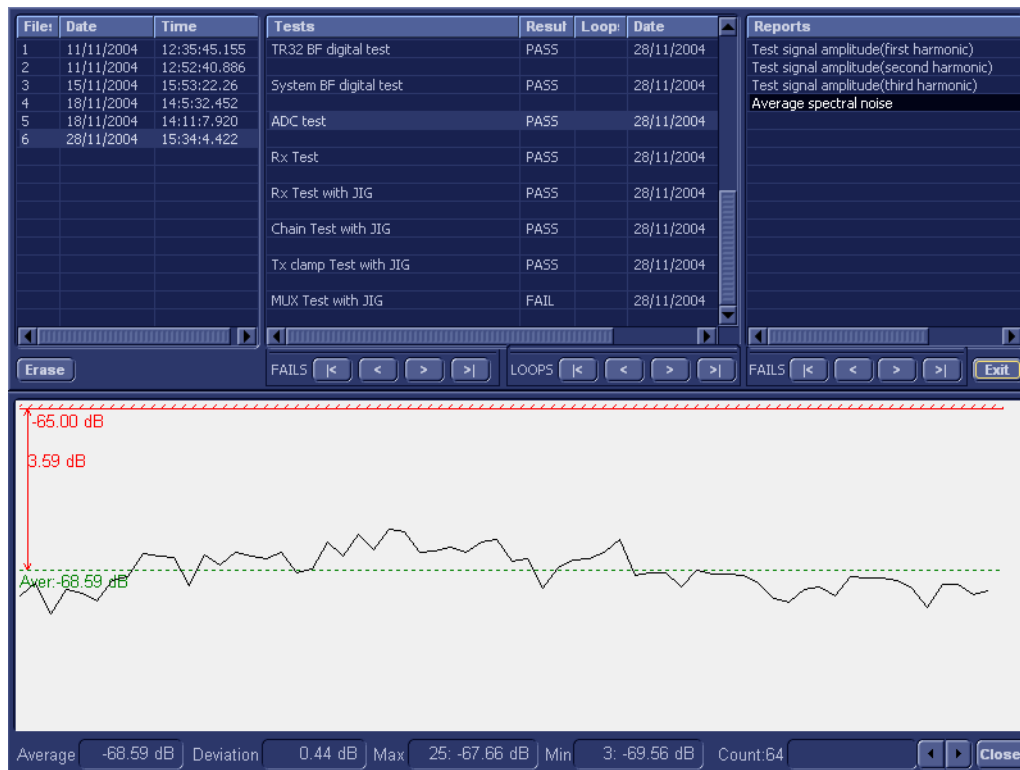

Figure 7-31 View Test Log - Average
- 15.) Select the fourth report (the report is highlighted in the *Reports* list, and the corresponding results are shown in the Report window below, as shown in Figure 7-31).